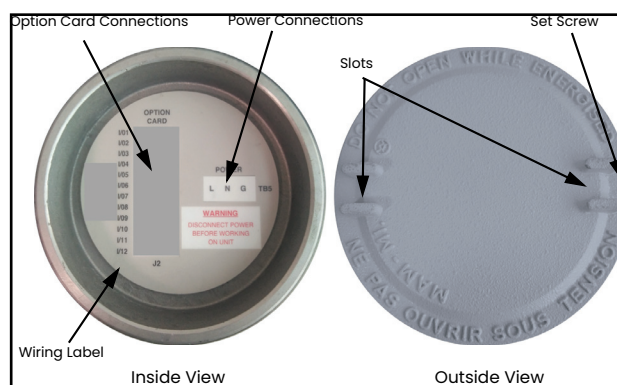

Figure 9: Rear cover with connection labels
To prepare the *PanaFlow ZIG/Z2G Process Gas Flowmeter* for wiring, refer to *Figure 9* below, and complete the following steps:
3. Locate the 12-pin terminal block in *Figure 13* and wire the option card as indicated on the label inside the rear cover (see *Figure 9*). Secure the cable clamp
Before making any connections, complete the steps in *Section 2.4, “Making the electrical connections”*. Then, wire the analog inputs as shown on the label in the rear cover (see *Figure 9*).
The *PanaFlow Z1G/Z2G Process Gas Flowmeter* RTD inputs option card provides two or four direct RTD inputs (designated as A, B, C and D). Each RTD input requires three wires, and should be connected as shown on the label in the rear cover (see *Figure 9*).